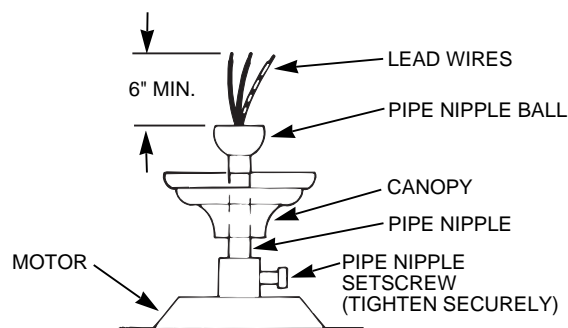

FIGURE 5B
A. Insert pipe nipple through canopy and feed wires from top of motor through pipe nipple. Screw pipe nipple into fan until tight (at least 4-1/2 turns). The setscrew locking the pipe nipple to motor must be tightened very securely. See Figure 5B. Failure to tighten screw could result in fan falling.